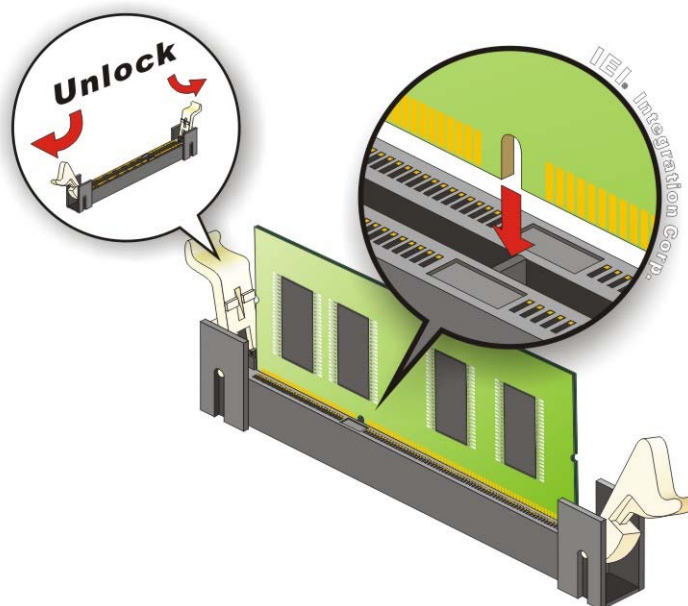

Figure 4-6: SO-DIMM Installation
To install a SO-DIMM, please follow the steps below and refer to **Figure 4-6**.
- Step 1: Open the SO-DIMM socket handles.** Open the two handles outwards as far as they can. See **Figure 4-6**.
- Step 2: Align the SO-DIMM with the socket.** Align the SO-DIMM so the notch on the memory lines up with the notch on the memory socket. See **Figure 4-6**.
- Step 3: Insert the SO-DIMM.** Once aligned, press down until the SO-DIMM is properly seated. Clip the two handles into place. See **Figure 4-6**.